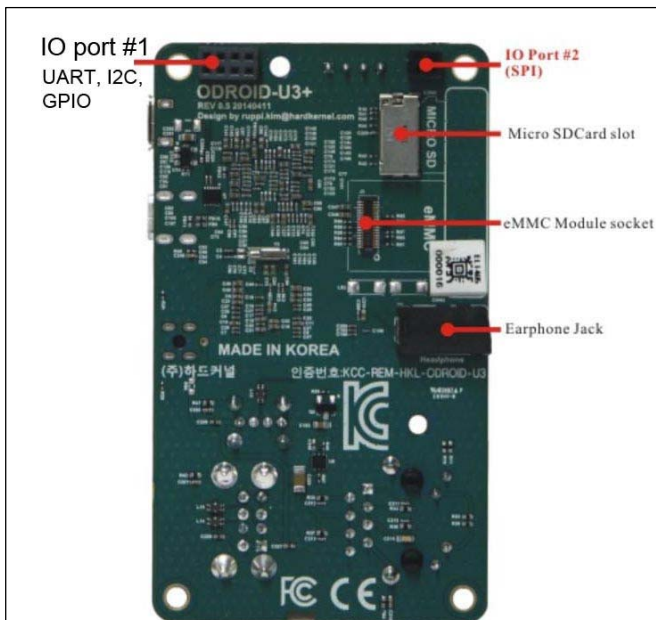

Figure 3 – The bottom side of ODROID U3.
- **Figure 3** shows the bottom side of the ODROID U3 computer. The connector slot for inserting the micro-SD card with Lubuntu already on it (see Section 2.0) is on the right-side of the card.